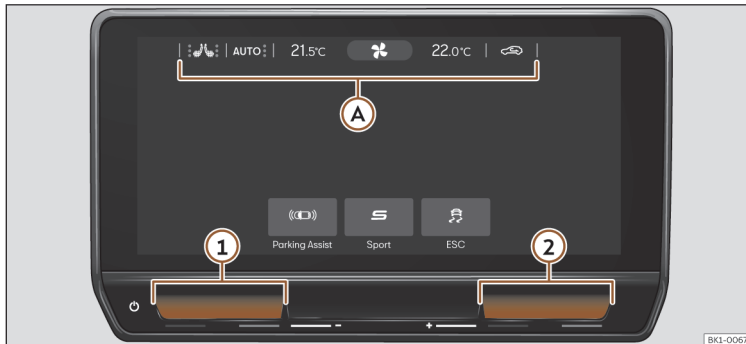

Fig. 91 Schematic representation: air conditioning functions
Fixed bar at the top of the Infotainment System»» **Fig. 91 A** screen, (even if it is disconnected) where the following Air Conditioning functions are located:
OR: use the touch zones **1** and **2** (blue / red) to adjust the temperature of the Air Conditioning»» **Fig. 91**.
>>> **Fig. 91**  to view the seat heating menu.
- You can also adjust the seat heating level by using **two** fingers to press the sensor field >>> **Fig. 91**  or  (left or right seat).